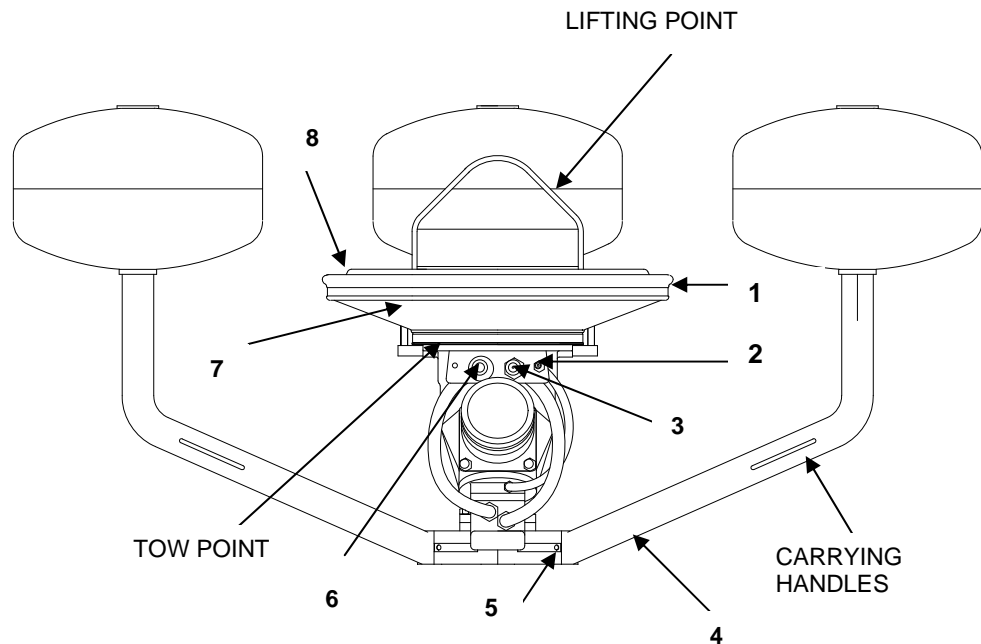

Fig. 1
- A. Remove from the container (OPTION) the pump section incl. hopper with weir lip adapter and the 3 float pipes (fig. 1, item 4) with the floats and the thrusters.